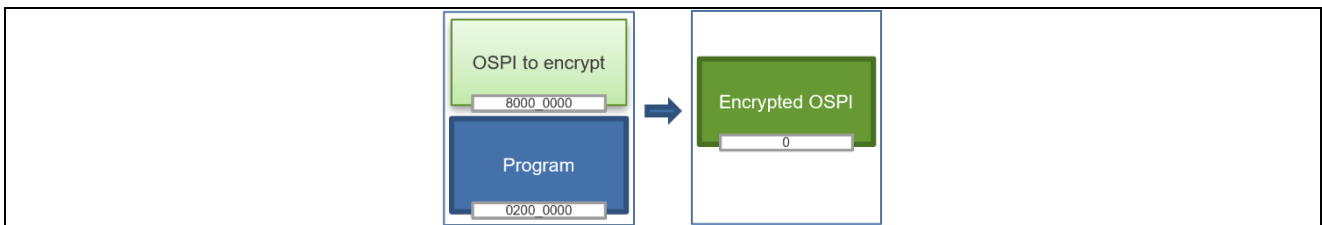

Figure 12. SKMT Support for DOTF Production Programming, Partial File
- Production programming. The input file contains both internal flash and OSPI memory application code and/or data, such as would be generated by compilation of application code. The output file contains the encrypted OSPI information as a separate file with addressing starting at 0 for external programming of the OSPI. This file can then be used for external programming of an OSPI memory chip. See Figure 12. SKMT Support for DOTF Production Programming, Partial File.